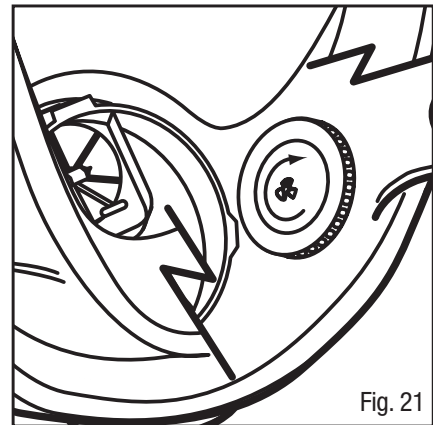

Fig. 21
2. Install new valve(s) onto post(s). Be certain valve(s) is fully engaged under all three lugs on post(s), lays flat, and moves freely (spins) on post (Fig. 21).